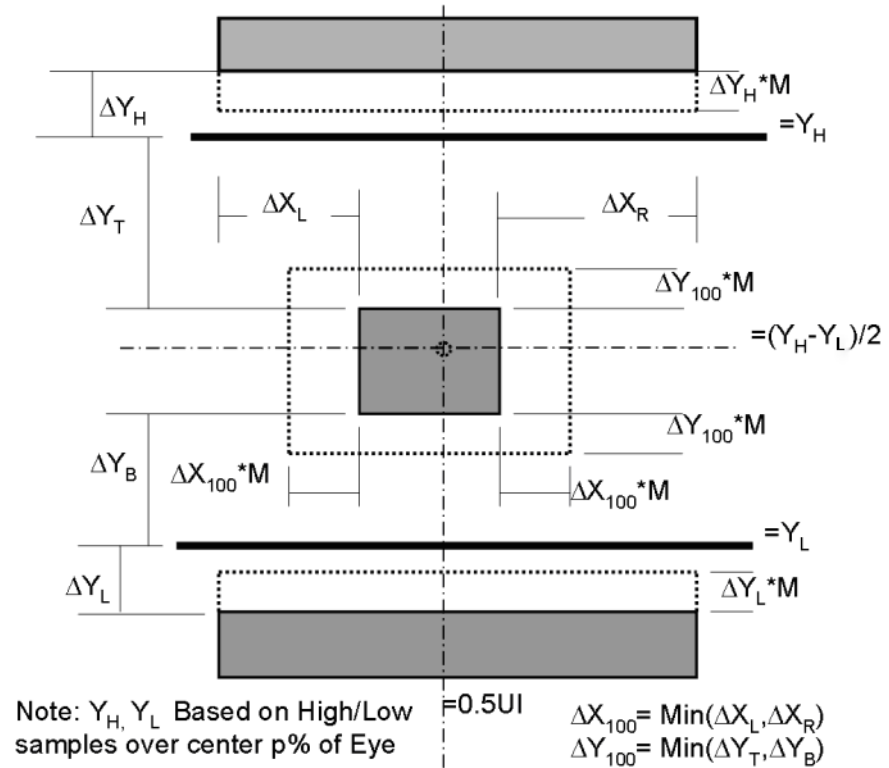

Figure 37. Tektronix Rectangle Mask Margin Illustration
The leftmost and rightmost vertices of the center mask are moved outward by the specified percentage (M) of this available margin or inwards if the margin is negative. In Figure 37, this is represented as $\Delta X_{100} = \text{Min}(\Delta X_L, \Delta X_R)$.